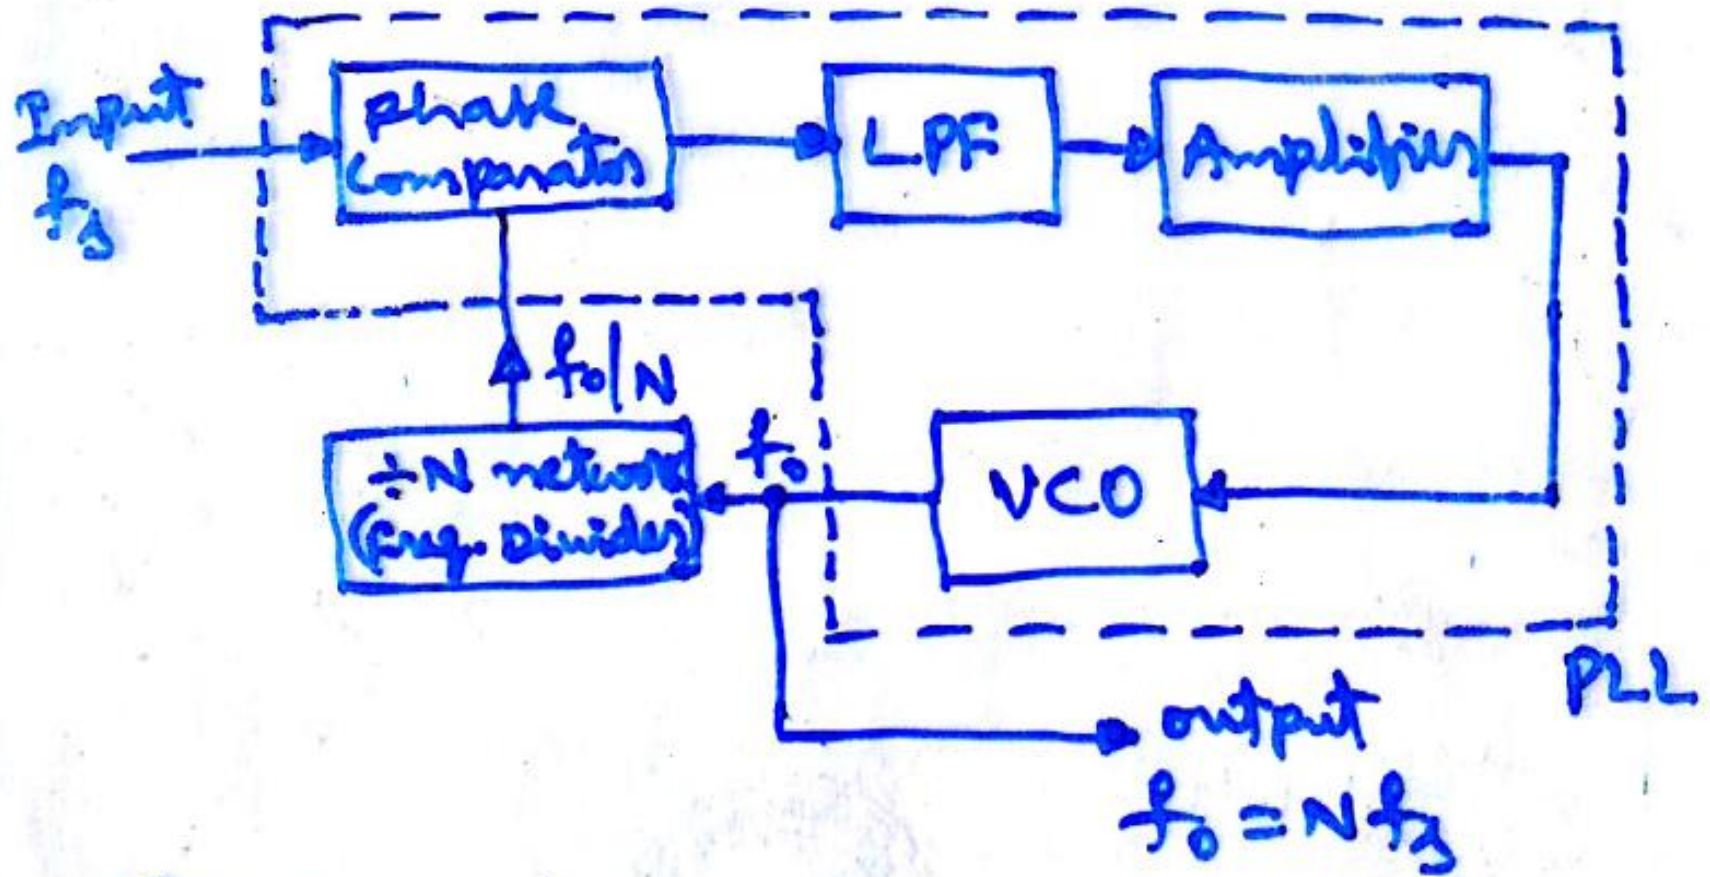

Fig 9.12 Frequency multiplier using IC PLL
- Figure 9.12 gives the block diagram of a frequency multiplier using PLL.